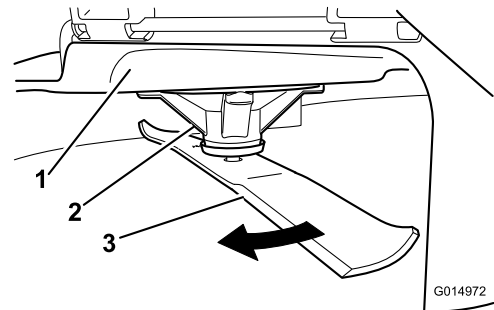

Figure 105
2. While wearing thickly padded gloves, or other adequate hand protection, slowly rotate the blade into a position that allows you to measure the distance between the cutting edge and the level surface the machine is on (Figure 105).